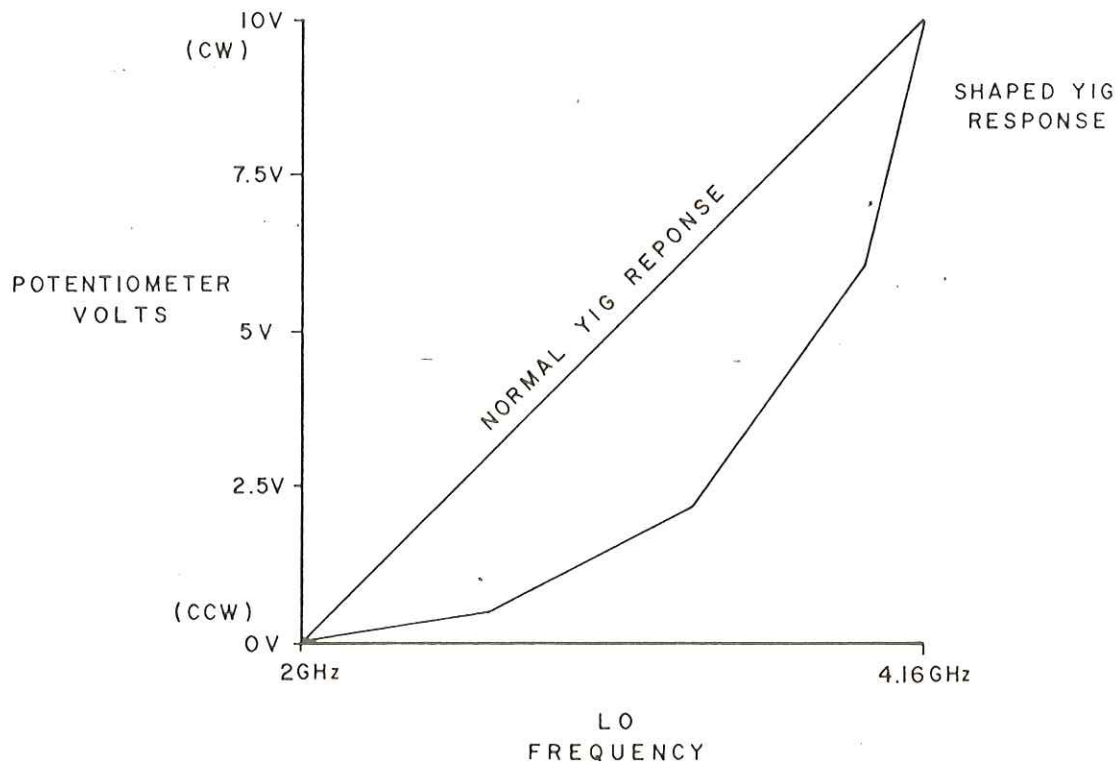

Figure 2-2. Simulated YIG-to-LO Tuning Curve
2.2.2 The YIG shaper and driver circuitry accomplishes this by setting different voltage levels at different points on the YIG driver potentiometer. These levels are set such that they approximate the tuning response of the LO. Twelve identical circuits consisting of voltage divider networks, varied by potentiometers R26 through R37, and unity gain operational amplifiers U3 through U8 produce the constant voltages needed. Thus, a controlled voltage level is felt at each tap on the YIG driver potentiometer. Figure 2-2 shows a simulated YIG tuning curve which has four breakpoints instead of the 12 points used in this unit. This curve is created by the YIG driver pot as the LO is swept through its range.